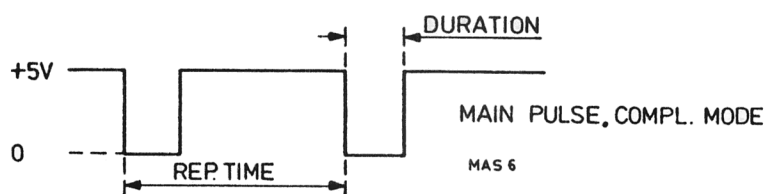

Fig. VI-3 Main pulse, complementary mode PM 5705
- Depress the COMPL switch and observe a complementary pulse similar to fig. VI-3.